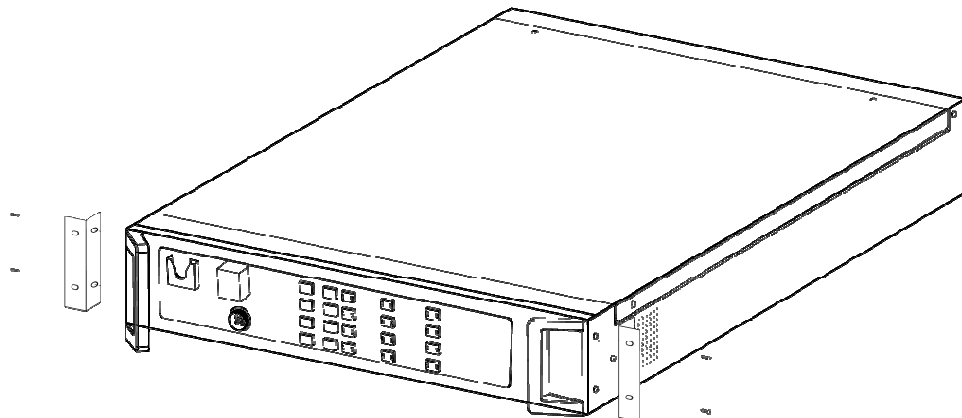

Figure 5 Schematic Diagram of the DCS Bracket Installation
1. Install brackets on the left and right sides of the DCS, as shown in Figure 5.